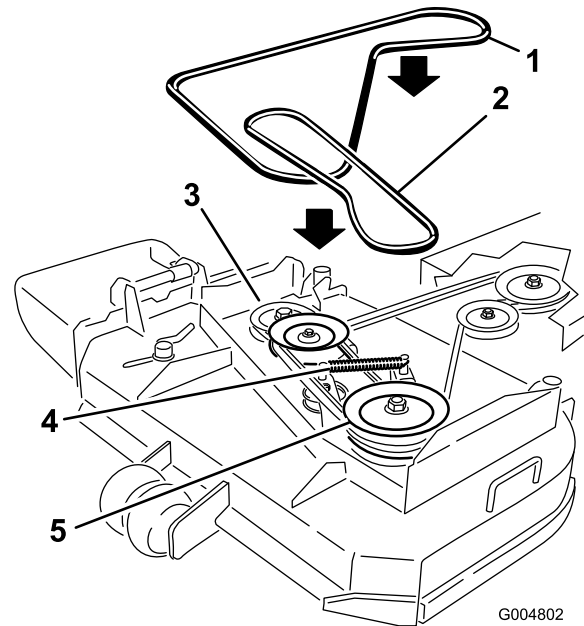

Figure 37
6. Disconnect the idler arm spring to relieve tension on the idler arm and idler pulley, then remove the worn mower belt (Figure 37).
7. Install the new mower belt around the 2 outside spindle pulleys, the idler pulley, and in the lower groove of the double spindle pulley (Figure 37).
8. Connect the idler arm spring (Figure 37).
10. Adjust the belt guide an 3 mm (1/8 inch) from the belt (Figure 37).